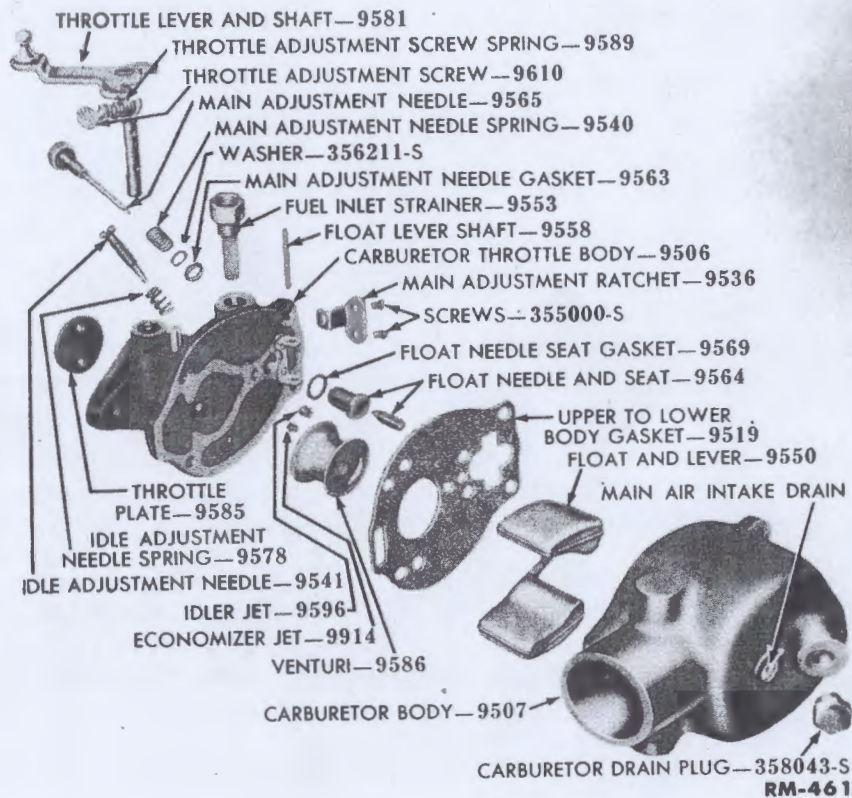

Figure 18—Carburetor, Disassembled
a. **Remove Throttle Body From Carburetor Body.** Remove the main adjustment ratchet screws, and remove the ratchet (fig. 18). Remove the main adjustment needle assembly from the throttle body. Remove the four screws which secure the throttle body to the carburetor body. Separate the two units.
b. **Disassemble Throttle Body.** Remove the float lever shaft, float, and float needle valve (fig. 18) from the throttle body. Remove the gasket and venturi. Remove the idler jet and economizer jet with a jet wrench or a small screw driver. Remove the idle adjusting needle. Remove the float needle seat (fig. 18) with
b. **Carburetor Throttle Body.** Replace the carburetor throttle body if it is cracked, if the threads are stripped, or if the throttle or choke shaft holes are worn. Replace the throttle body if the float hanger (fig. 18) is damaged.
c. **Throttle Shaft and Lever.** Replace the throttle shaft and lever (fig. 18) if the shaft is worn or bent, if the threads are stripped, or if the lever is damaged or loose on the shaft.
b. Assemble Carburetor Throttle Body. Install the idler jet and economizer jet (fig. 18) in the throttle body with a small screw driver or jet wrench. Install the float needle and a new gasket with a jet wrench. Install a new felt seal on the lever end of the throttle shaft. Install the throttle shaft and lever in the throttle body. Place the throttle plate on the throttle shaft, and install the two small screws and lock washers. Hold the throttle lever in the closed position, and tighten the two throttle plate screws. Install the idle fuel adjusting screw and spring. Turn the screw in until it seats lightly, then back it out $\frac{3}{4}$ of a turn. Place the venturi (fig. 18) in the gasket. Place the gasket on the throttle body so the large end of the venturi seats in the throttle body. Place the float needle valve in the float valve seat. Install the float in the throttle body. Secure the main adjustment ratchet to the throttle body with two screws and washers. Set the float to the correct level (fig. 20).
c. Assemble Carburetor Throttle Body to Carburetor Body. Place the carburetor throttle body on the carburetor body, as shown in fig. 21, being careful not to bend the float. Secure the carburetor throttle body to the carburetor body with four screws and lock washers. Install the main adjustment needle assembly, using a new gasket (fig. 18). Turn the adjustment needle in until it is seated lightly, then turn it out $1\frac{1}{4}$ to $1\frac{1}{2}$ turns.